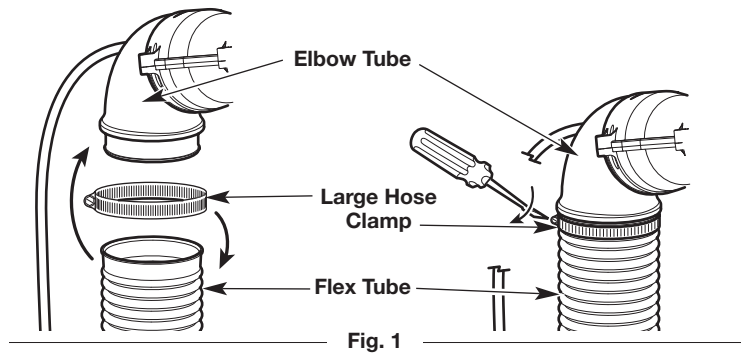

Fig. 1
2. Place the large hose clamp around the large end of the flex tube (Fig. 1).
3. Slide the flex tube and hose clamp onto the elbow tube (Fig. 1).
4. Tighten the screw on the hose clamp with a flat-head screwdriver (Fig. 1).